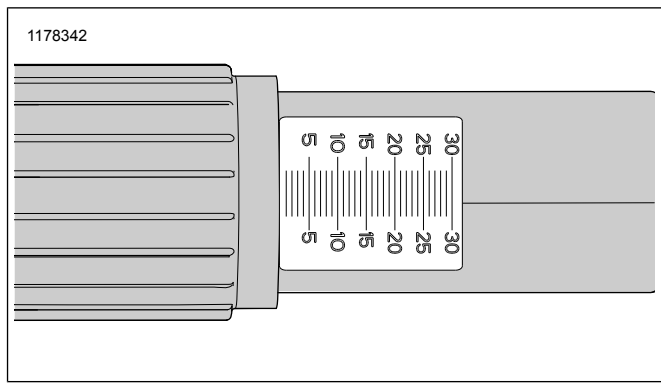

Figure 6. Adjuster Scale
2. Refer to Table 1 and Figure 6. Rotate adjustment knob clockwise to increase preload setting, or counterclockwise to decrease preload setting until indicator knob shows appropriate preload setting on the scale. The knob will click after each half rotation.